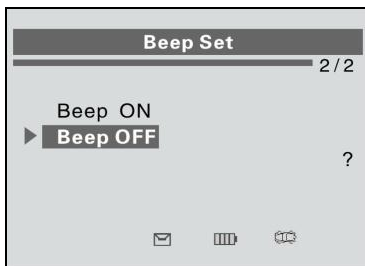

Figure 2.11
- 2) From **Beep Set** menu, use the **UP/DOWN SCROLL** button to select **Beep ON** or **Beep OFF** to turn on/off the beep.(Figure 2.11)